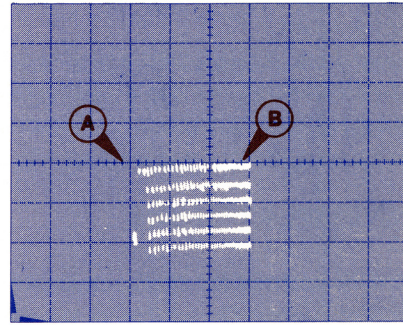

Figure 2-6. Central input voltage range. Points (A) & (B) are 8 volts and 12 volts.
- 8) Measure central input voltage range – Turn down INTENSITY and press LOWER and UPPER ERASE. Reset + SUPPLY to upper end of central region. [12 V]. Set HORIZ VOLTS/DIV to approximately 1/5 of this value [2V, COLLECTOR VOLTS] and SWEEP FREQUENCY VARIABLE counterclockwise to approximately midrange (approximately 0.05 Hz). Turn up INTENSITY and allow full sweep to be stored, then turn INTENSITY back down. Using bottom curve on display, read line regulation vertically between horizontal end points of region of interest. [8 V (4 major divs from left) and 12 V (6 major divs from left)]. Compare with specifications. [50 mV]. See Figure 2-6. 4 3 41